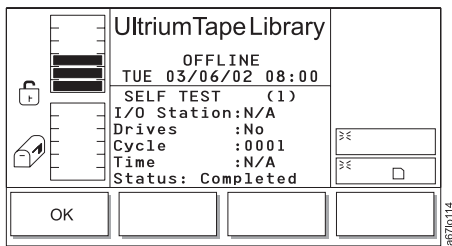

Figure 4-180. Self Test Execution Dialog
7. Press the button below the **OK** softkey to perform the self test. The Self Test Execution Dialog displays a summary of the test settings and a Status field that indicates that the diagnostic is Running. When the test completes, the screen refreshes and the Status field displays Completed (see Figure 4-180).